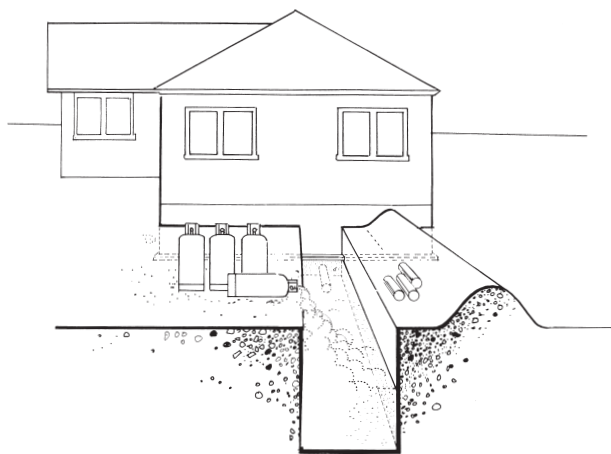

Figure 32-8: Propane Can Collect in Low-lying Areas
- Remember that propane is heavier than air and will collect in low areas such as trenches, pits, and basements where it can create a flammable or explosive situation (Figure 32-8).